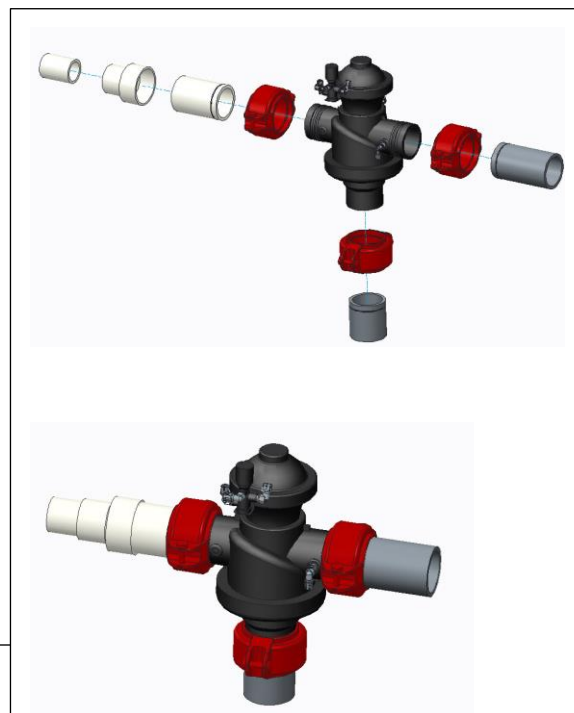

Figure 2 Grooved Fitting Assembly
2. The 3" backwash valve model has grooved fittings. The valve will need to be assembled to PVC grooved adapters (included). Basic assembly instructions for grooved fittings follow (See Figure 2):